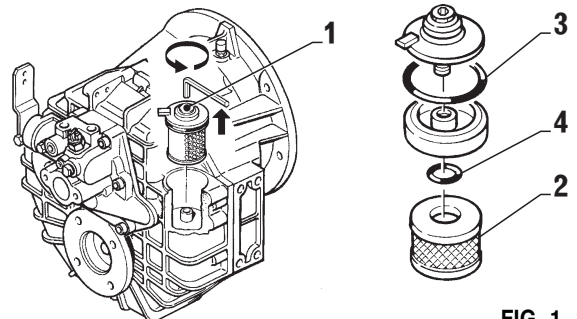

FIG. 1-1a
Turn the screw that fixes the oil filter cover in a counter-clockwise direction and remove the filter from its housing (item 1, fig. 1-1a). Use a 6 mm Allen wrench.
Pull filter element off (item 2, fig.1-1a).
Check O-rings (item 3 and 4, Fig. 1-1a) for wear, replace if necessary.